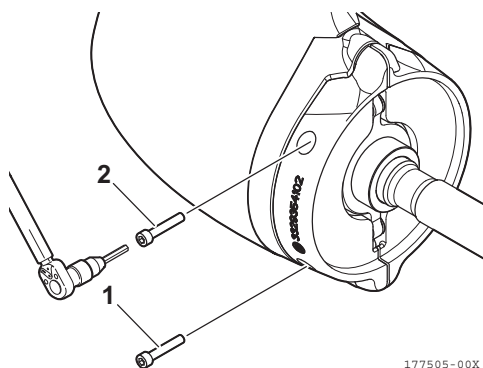

Figure 30
2. Using a torque wrench with the hex key, tighten the fixing screws (1, 2, **Figure 30**) of the anodes to a torque of 9 Nm.